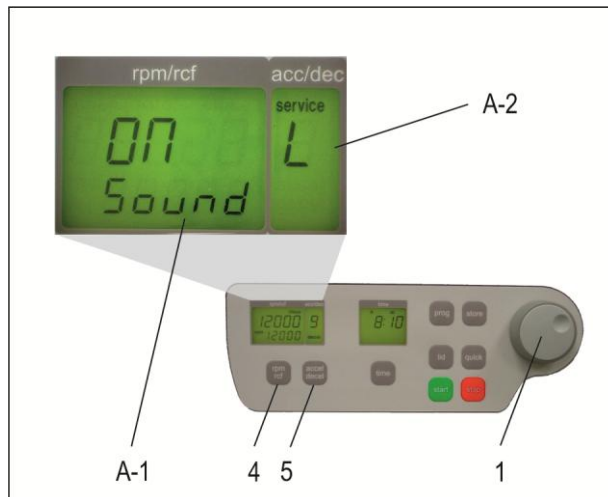

Figure 4
Proceed as illustrated, under point 1.8.1, to enter this program mode, press the key; "accel/decel" (5). In the display, "accel/decel" (A-2) flashes the word, "service". Select the letter, "L" with the adjustable knob (1). As a result, appearing in the display "rpm/rcf" (A-1), are the words, "On Sound". By pressing the key, "rpm/rcf" (4), the word "On" flashes, and the sound can be switched off with the adjustable knob (1), (see Figure 4).